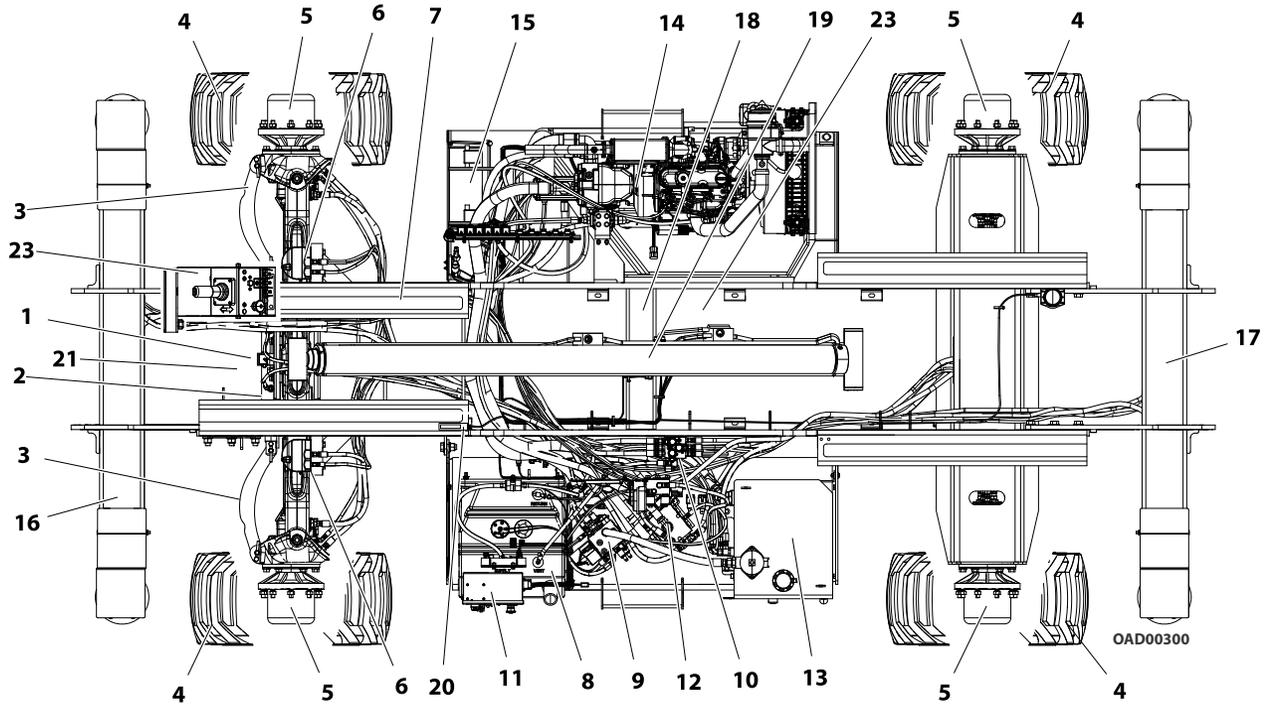

Figure 2-1. Walk-Around Inspection Diagram
- 5. “Walk-Around” Inspection** – Refer to Figure 2-1.